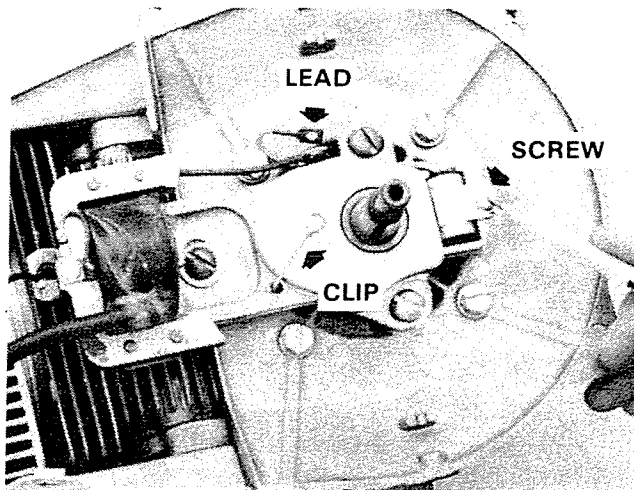

Figure 11. Removing Condenser.
4. Remove screw retaining condenser clamp and condenser to stator plate. Figure 11.